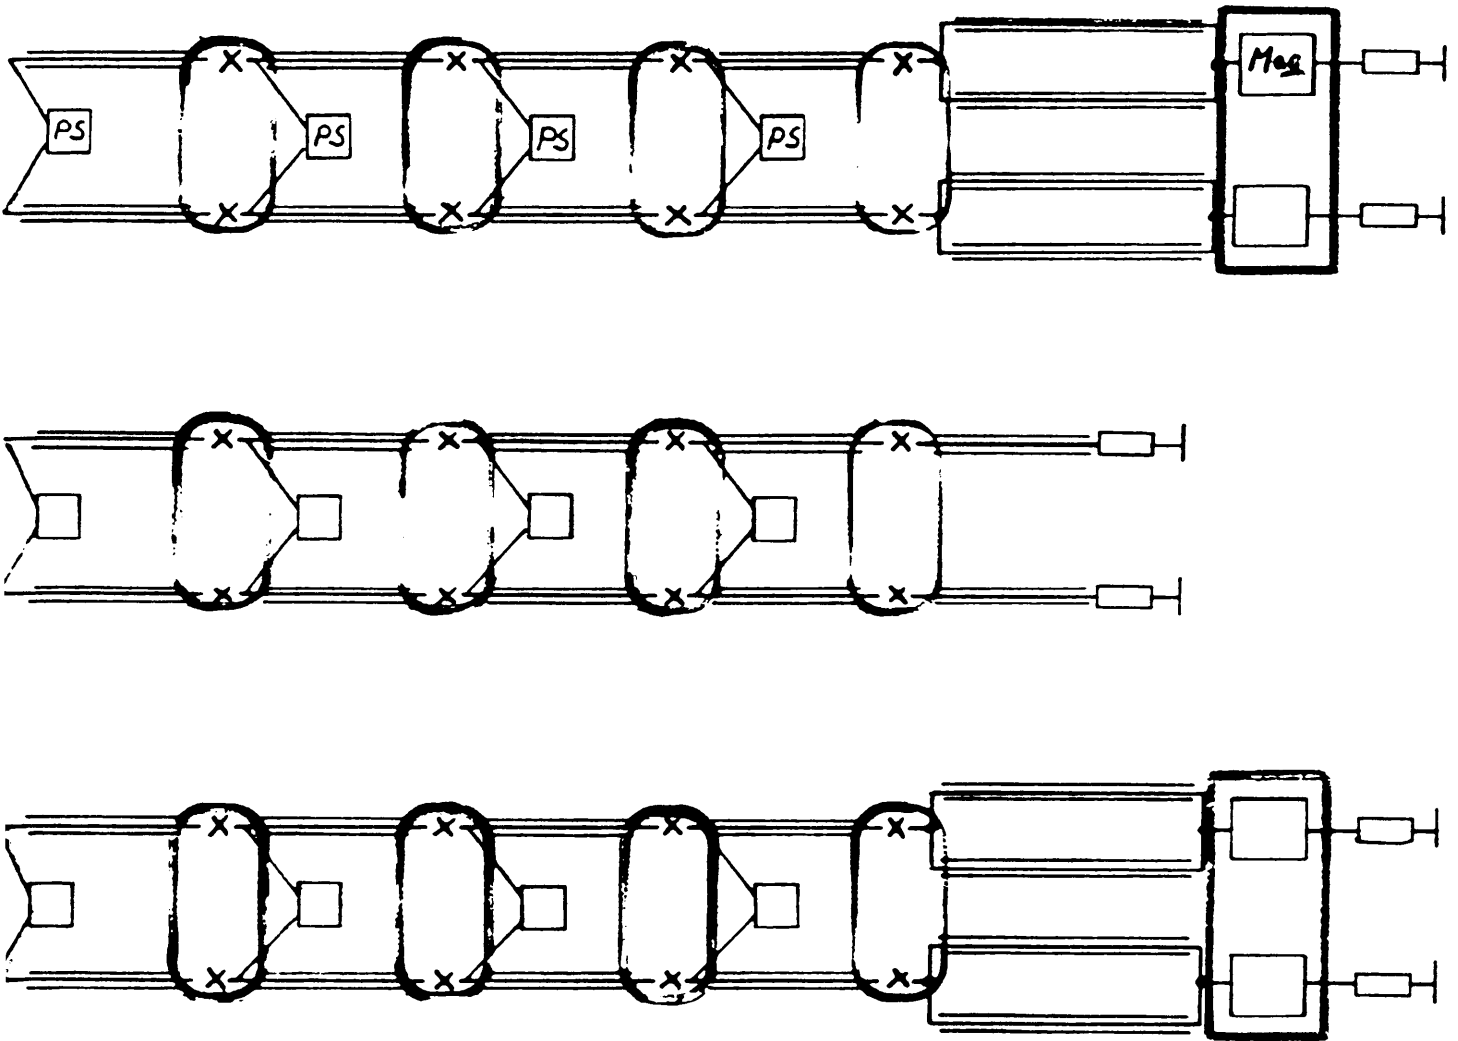

Figure 3b.
The three ejection (EJ) kicker generators consist each of four double series switch tanks and four transformer assemblies as shown schematically in Figure 3b. These items are linked together via red HV charging and PFN cables and are connected via low voltage cabling to the three control racks associated with each generator. Each ejection generator is connected via black HV transmission cables to either the local dummy load or to the appropriate EPA ring ejection magnet.